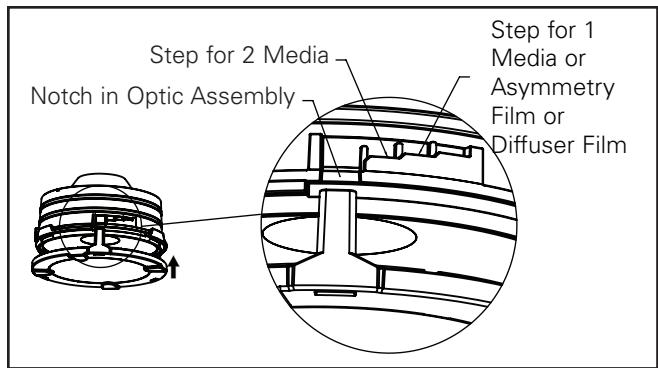

Figure 5
4. Insert media assembly by aligning the media holder tab with the notch in the optic assembly. (Figure 5)